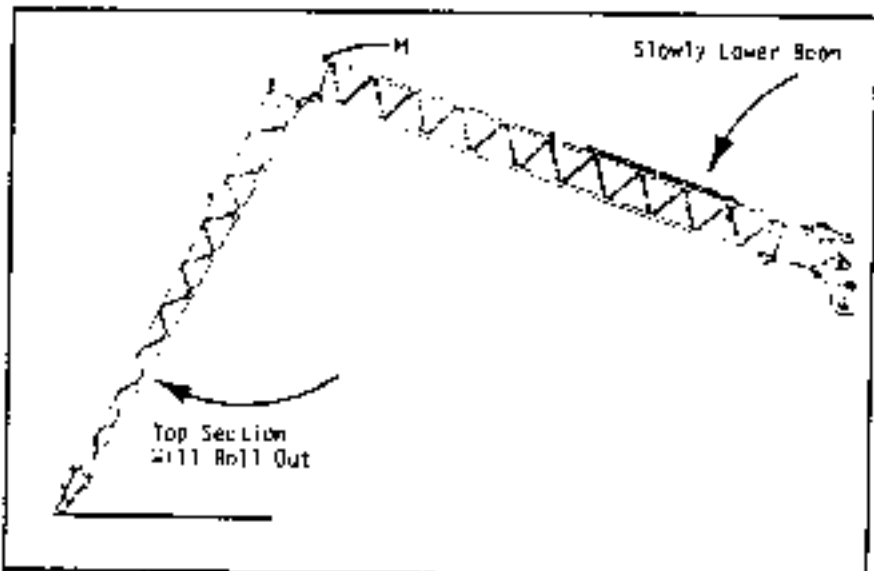

Fig. 4-44
Step 9: Carefully boom down until the jib head sheave rests on the ground. Push the jib top section forward of vertical and continue booming down letting the jib head sheave roll on the ground. Boom down until the lugs engage at "H". Install pins and keepers at "H". Refer to Fig. 4-44.